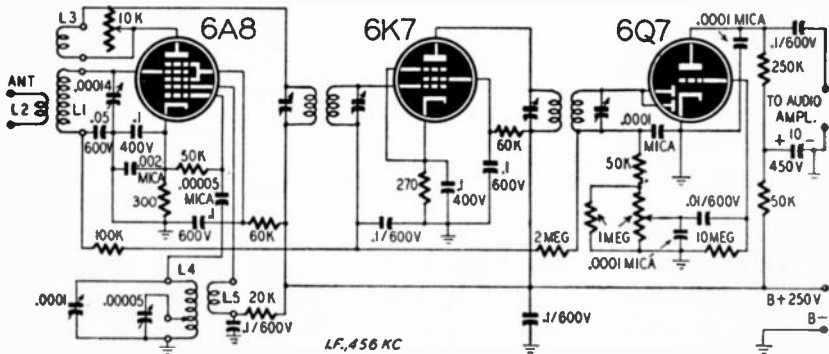

Fig. 120
A. This diagram (Fig. 120) is designed to meet your needs. The oscillator coil uses a tapped winding, so a 5-prong coil must be used in this circuit. If you desire to use regeneration in the first detector, L3 must be included. This will require a 6-prong form. If this feature is omitted, a four-prong form may be used.